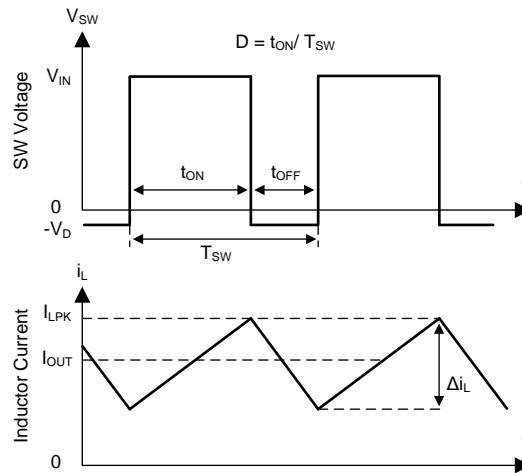

Figure 10. SW Node and Inductor Current Waveforms in Continuous Conduction Mode
The following operation description of the LM76002/LM76003 refers to the Functional Block Diagram and to the waveforms in Figure 10. The LM76002/LM76003 supplies a regulated output voltage by turning on the internal high side (HS) and low side (LS) NMOS switches with varying duty cycle (D). During high-side switch on-time t_{ON} , the SW pin voltage V_{SW} swings up to approximately V_{IN} , and the inductor current i_L increase with linear slope. The HS switch is off by the control logic. During the HS switch off-time, t_{OFF} , the LS switch is turned on. Inductor current discharges through the LS switch, which forces the V_{SW} to swing below ground by the voltage drop across the LS switch. The regulator loop adjusts the duty cycle to maintain a constant output voltage. The control parameter of buck converter is defined as duty cycle $D = t_{ON} / T_{SW}$. In an ideal buck converter, where losses are ignored, D is proportional to the output voltage and inversely proportional to the input voltage: $D = V_{OUT} / V_{IN}$.